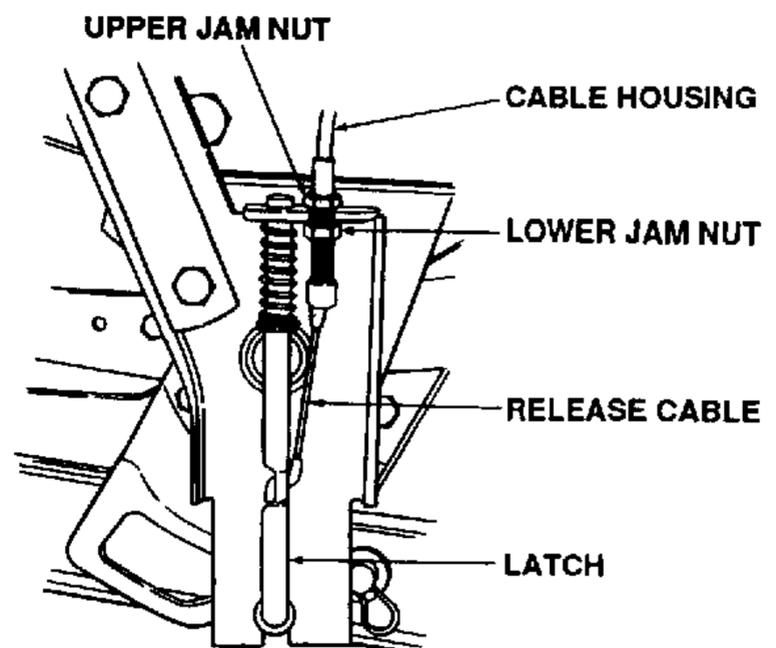

Figure 7-39. Adjusting Latch Release Cable.
1. The lift latch is operated by the trigger assembly on the lift handle, through the latch release cable. If the latch cable is not functioning properly, refer to Figure 7-39 and adjust as follows: